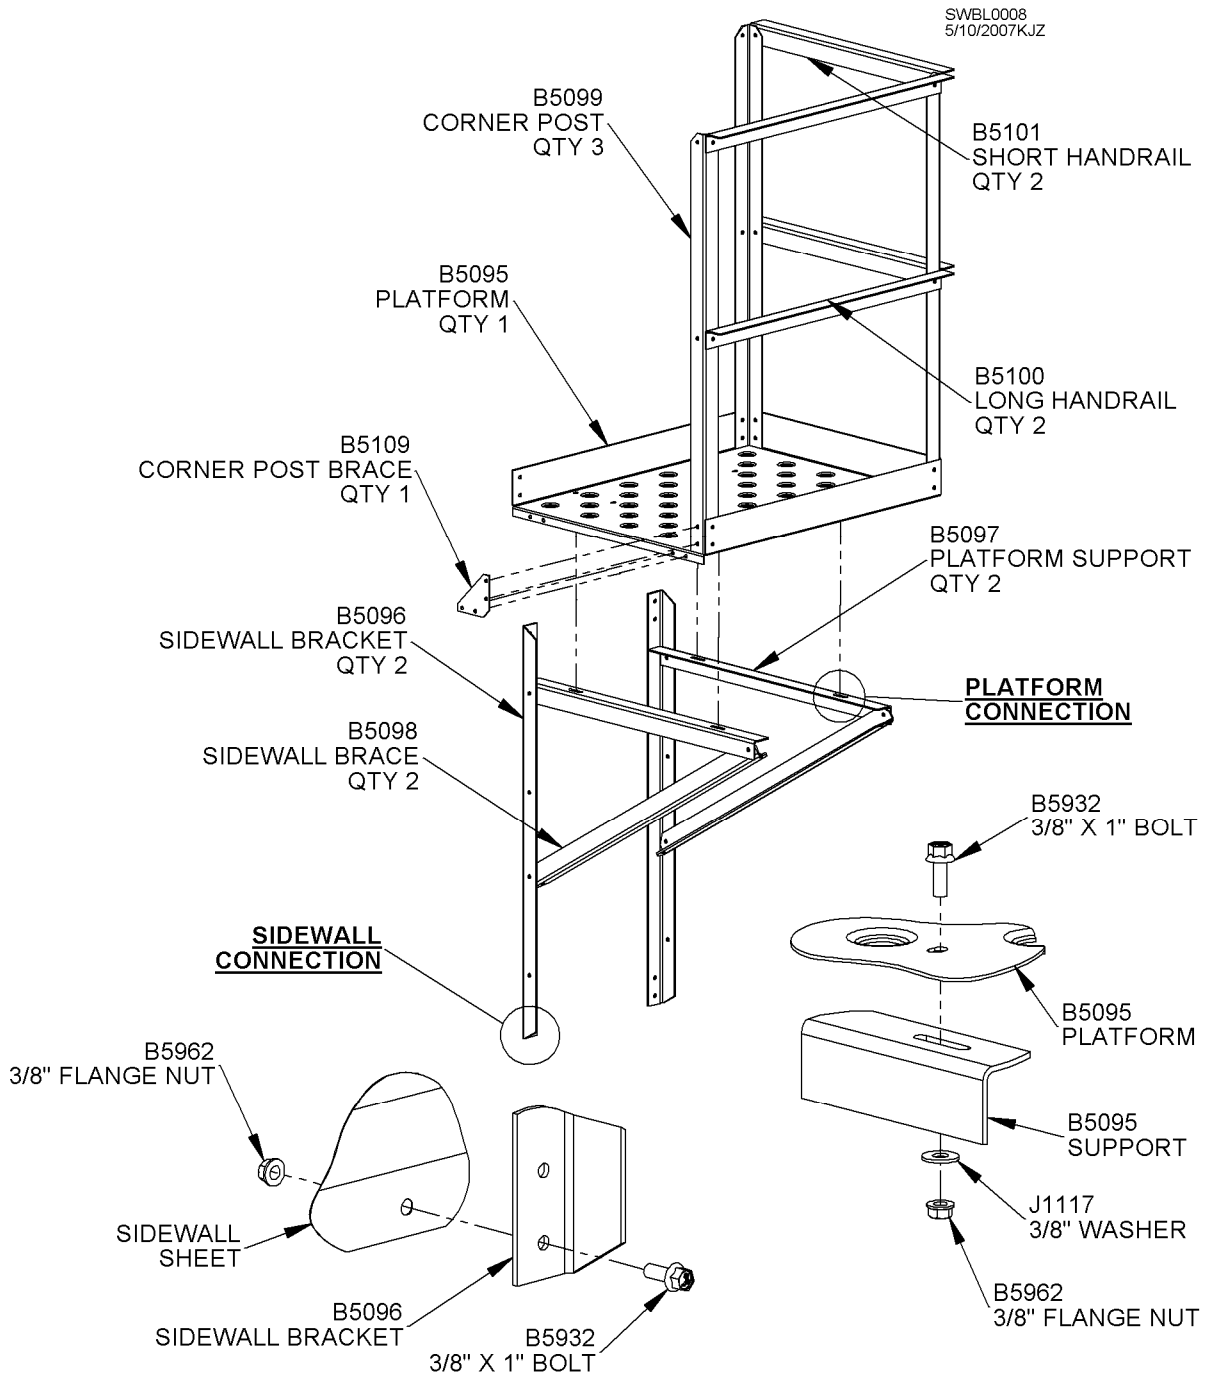

Fig. 13
Attach platform to top of platform supports and fasten the three (3) corner posts to platform's 4" toeboard. Fasten long and short platform handrails to corner posts. Tighten platform assembly. See Fig. 13. **HINT:** When assembling platform with safety cages, some hardware will have to be left out of platform assembly at this time.